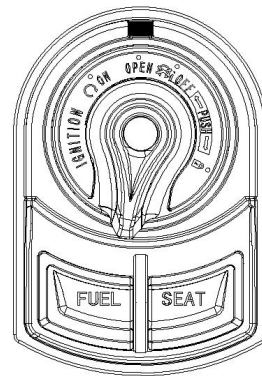

Fig. 3
- 3、 FUEL/SEAT (Fig. 3)
Fig 3: Start the motorcycle. Power on: Press the lock button once, or insert the spare key from the remote control into the keyhole and turn it clockwise to the position shown in the figure (second gear position) to turn on the power. At this point, the key cannot be removed.